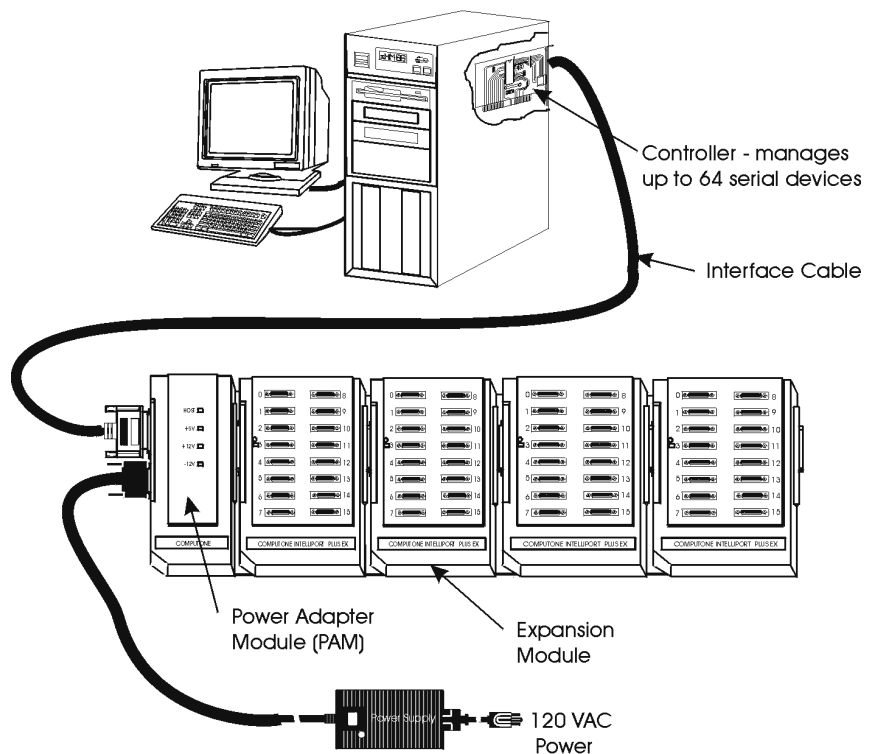

Figure 2-3 PAM Attachment Scheme
1. Attach the Power Adapter Module(PAM) between the first expansion module and the interface cable, as shown in Figure 2-3 .